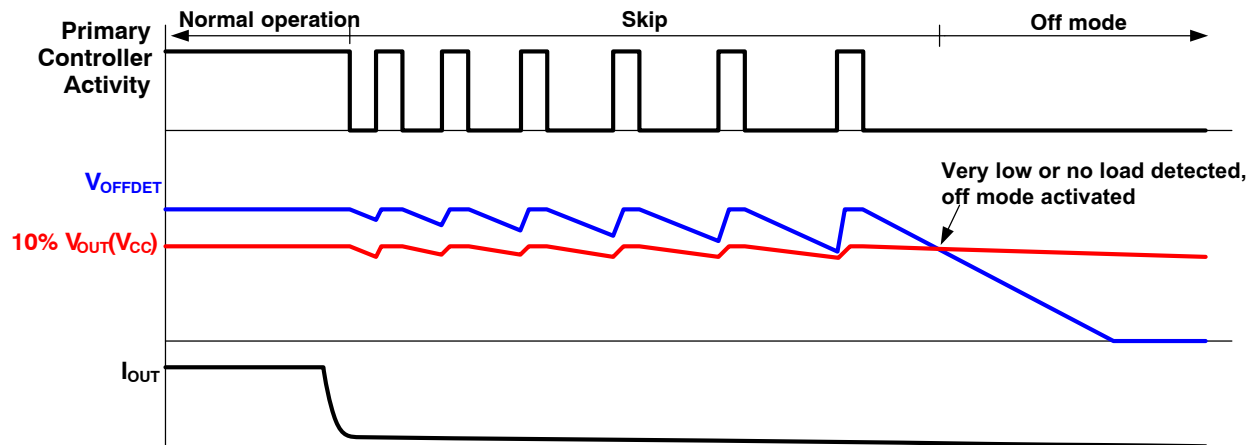

Figure 30. OFF Mode Detection
The OFF mode detection is based on comparison of output voltage and voltage loaded with fixed resistances (D2, C2, R8 and R9). Figure 30 shows detection waveforms. When output voltage is loaded with very low current, primary controller goes into skip mode (primary controller stops switching for some time). While output capacitor C1 is discharged very slowly (no load condition), the capacitor C2
While both C1 and C2 are discharged during the missing cycles, C2 discharge will be faster than C1 without output current,  $V_{OFFDET}$  drops below  $V_{OFFDETTH}$  and OFF mode is detected (7). This situation is shown in Figure 30 in detail. When OFF mode is detected, internal pull-up current  $I_{BIASV}$  is switch on (7), VSNS voltage increases (due to  $I_{BIASV}$ ) and voltage amplifier sinks full current to keep primary FB voltage below skip level until OFF mode is detected by the primary side controller (8). Current into ONOFF pin or DRIVE pin begins to flow at the same time, when entering into OFF mode (7). When OFF mode is detected by primary side controller (8a), primary FB injected current decreases to a lower level to reduce overall power consumption. Optocoupler current, can also be reduced from that time to keep the level below restart level. Secondary side controller decreases optocoupler current (voltage transconductance amplifier stops to sink current) when VSNS voltage drops below  $V_{REF}$  (9) and  $I_{BIASV}$  is also switch off when  $V_{SNS}$  is lower than 90% of  $V_{REF}$  to reduce overall consumption. This point is defined by  $I_{BIASV}$  current, R6, R4 and R5 resistors and discharging time of output capacitor C1. Discharging of C1 continues (10) until output voltage drops below level set by voltage divider at VMIN pin (except NCP4353A where minimum  $V_{OUT}$  is defined only by VCC UVLO) (11). ONOFF current stops and thanks to internal pull-up, the primary FB voltage rises above restart level (12) and primary controller starts switching (13). Output capacitor C1 is recharged (14) to set voltage. If there is still light load condition primary controller goes to skip mode (15) again and after some time secondary controller detects OFF mode by very light or no load condition (16) and whole cycle is repeated.